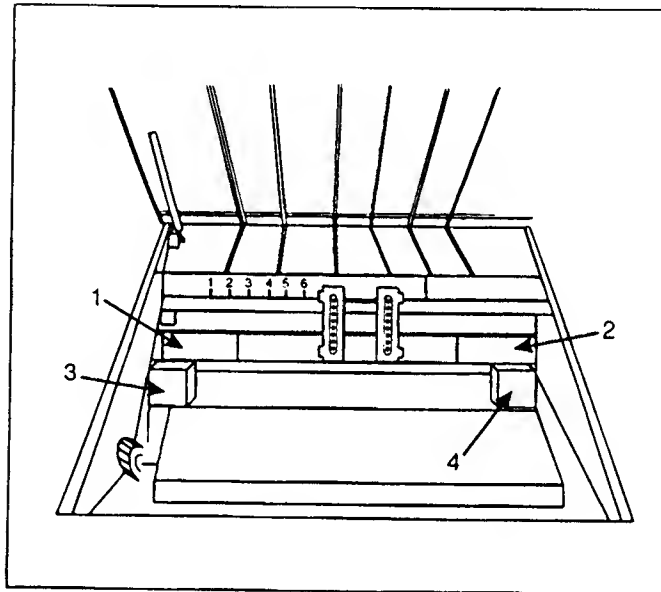

Figure 2-6. Removing the Foam Packing Blocks. Step f.
- f. Open the printer's top access cover, remove the four pink foam packing blocks in the order shown below. Blocks #1, #2, #3 & 4 are removed by grasping toward the rear and pulling up and out. (Figure 2-6).